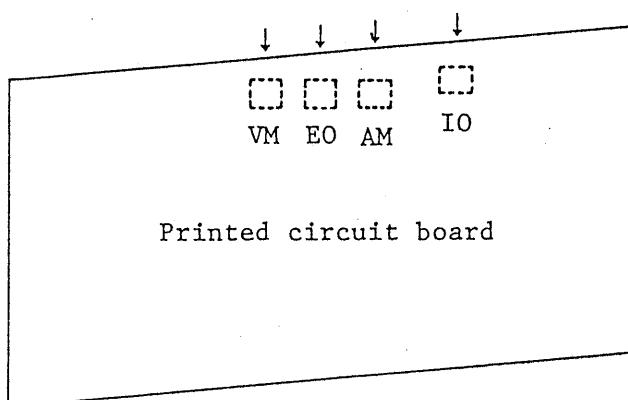

Figure 5-1
- (b) Turn the voltage controls fully clockwise, switch the voltage control selector to positions "I" and "II" alternately, and adjust, as below, the semi-fixed resistors with respect to the lower output voltage. If the meter pointer deflects over the scale, appropriately adjust the output voltage with calibration resistor EO. For adjusting parts, see Figure 5-1.
(1) Adjustment of voltmeter
Connect a voltmeter to output terminals, and set the output voltage to 20 V. Adjust the semi-fixed resistor VM in Figure 5-1, so that an output voltmeter of the Model PAF20-1 indicates 20 V.
Set the voltage range selector to the 10 - 20 V range, and turn the output voltage control knob counterclockwise to its extreme position. Then adjust the output voltage to 20.5 V by turning the semi-fixed resistor EO in Figure 5-1.
Set the ammeter range selector to the 1 A range. Connect a load to output terminals, and decrease the value of the load resistance. Adjust the semi-fixed resistor IO in Figure 5-1, so that the indication of ammeter increases up to approximately 1.15 A with decrease of the value of the load resistance, and then it decreases.